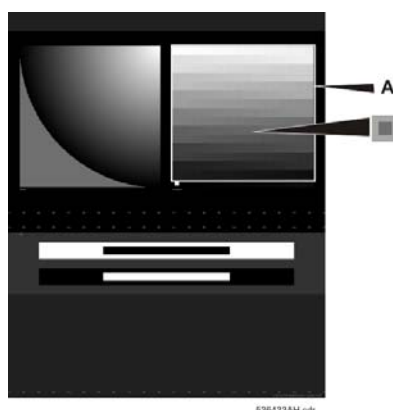

Figure 1: STI-test image
This fault can best be observed in the 256 squares in the STI test image. See Figure 1.
- (1) Perform a film calibration. See Technical Documentation DRYSTAR 5500/5503, chapter 3.6.
- (2) Print a STI test image and check the squares in the field A (the density of the small square is always 2 density units lower than the density of the big square - starting with 253/255 and ending with 1/3). See Figure 1.
- (3) If the small squares inside the bigger squares are not all visible, perform an MDM calibration followed by a film calibration. See Technical Documentation DRYSTAR 5500/5503, chapter 3.6.
- (4) Print the STI test image and check the squares in the field A.
- (5) If the squares are still not all visible, perform a Printhead profile calibration. Refer to Technical Documentation DRYSTAR 5000/5503, chapter 3.6.
- (6) Perform a Film Calibration.